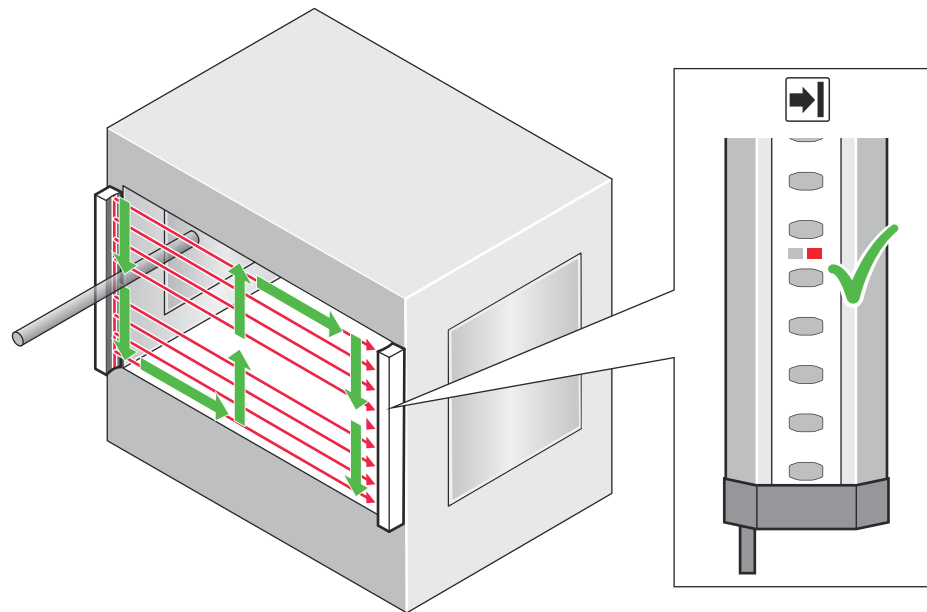

Figure 18: Test rod check: Step 1
1. Move the test rod slowly through the area to be protected (e.g., machine opening), as indicated by the arrow, see figure 18, page 28.